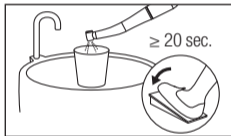

Fig. 18
- 4 Operate the handpiece at the chair-side for at least 20 seconds to purge fluids from the handpiece (Fig. 18). After the handpiece rotation has completely stopped, touch the handpiece head to confirm the head is NOT heating abnormally.